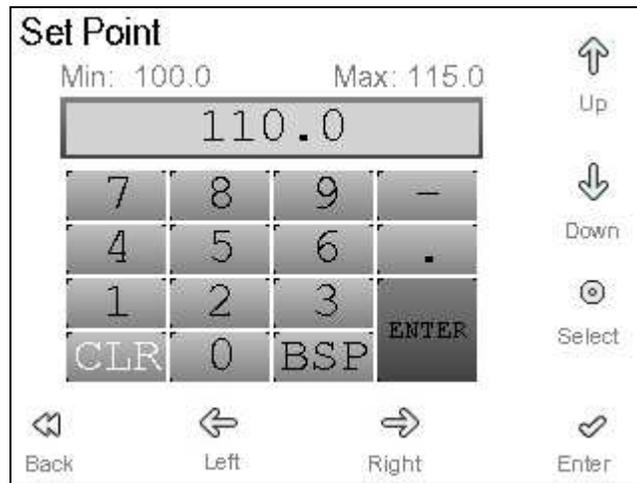

Figure 3-5: Target Pressure Menu
8. Press the *Enter* button. The **Target Pressure** numeric keypad will appear as illustrated by Figure 3-5.
9. Enter the **Target Pressure** to the first decimal by using the navigational buttons to choose the appropriate numeric value as indicated by the white highlight (CLR in Figure 3-5). The *Select* button is used to enter the number or function currently highlighted. When the target pressure has been entered, navigate to and select ENTER when complete, or simply press the *Enter* button to apply the target pressure. If the value entered is within the valid range, the number will turn green in the entry pad to show its acceptance. If the value is not accepted, the number will turn red momentarily and the value displayed on the keypad will revert back to the current setting. If this occurs, check the value entered against the *Min* and *Max* values above the keypad.